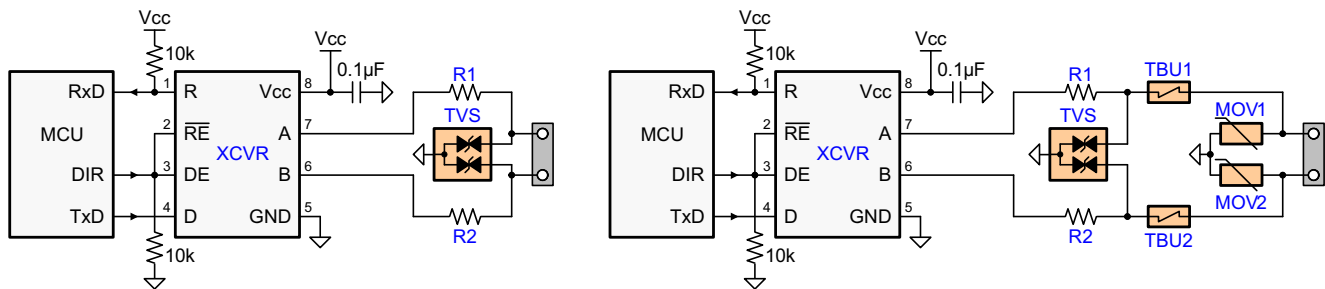

Figure 24. Transient Protection Against ESD, EFT, and Surge Transients
Figure 24 suggests two circuit designs providing protection against surge transients. Table 3 presents the associated bill of material.
While the transient protection is similar to the one in Figure 24 (left circuit), an additional high-voltage capacitor is used to divert transient energy from the floating RS-485 common further towards Protective Earth (PE) ground. This is necessary as noise transients on the bus are usually referred to Earth potential.